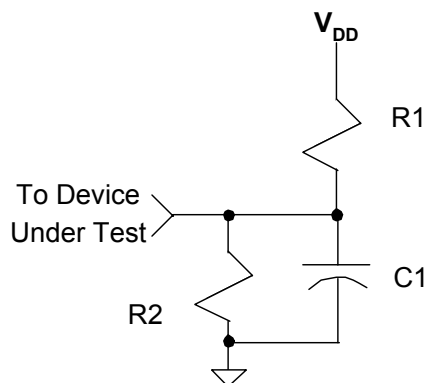

Figure 5: AC Test Load
6. With loads specified in Figure 5, Test load A from Table 7.
7. With loads specified in Figure 5, Test load B from Table 7.